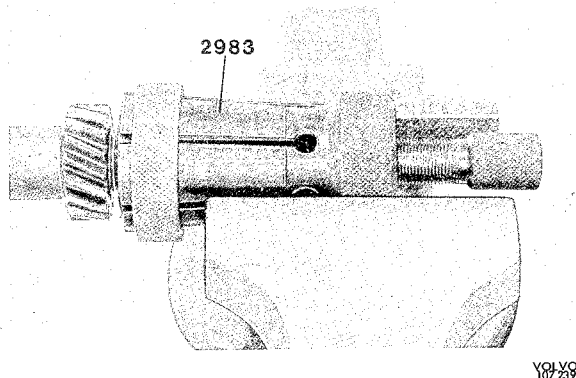

Fig. 4-17. Rear inner ring removal
10. Hoist the intermediate shaft. Drive out the outer ring for the intermediate shaft front bearing with drift 2413. Pull off the inner rings for the intermediate shaft bearing with pullers 2983 (rear bearing, see Fig. 4-17) and 2988 (front bearing).